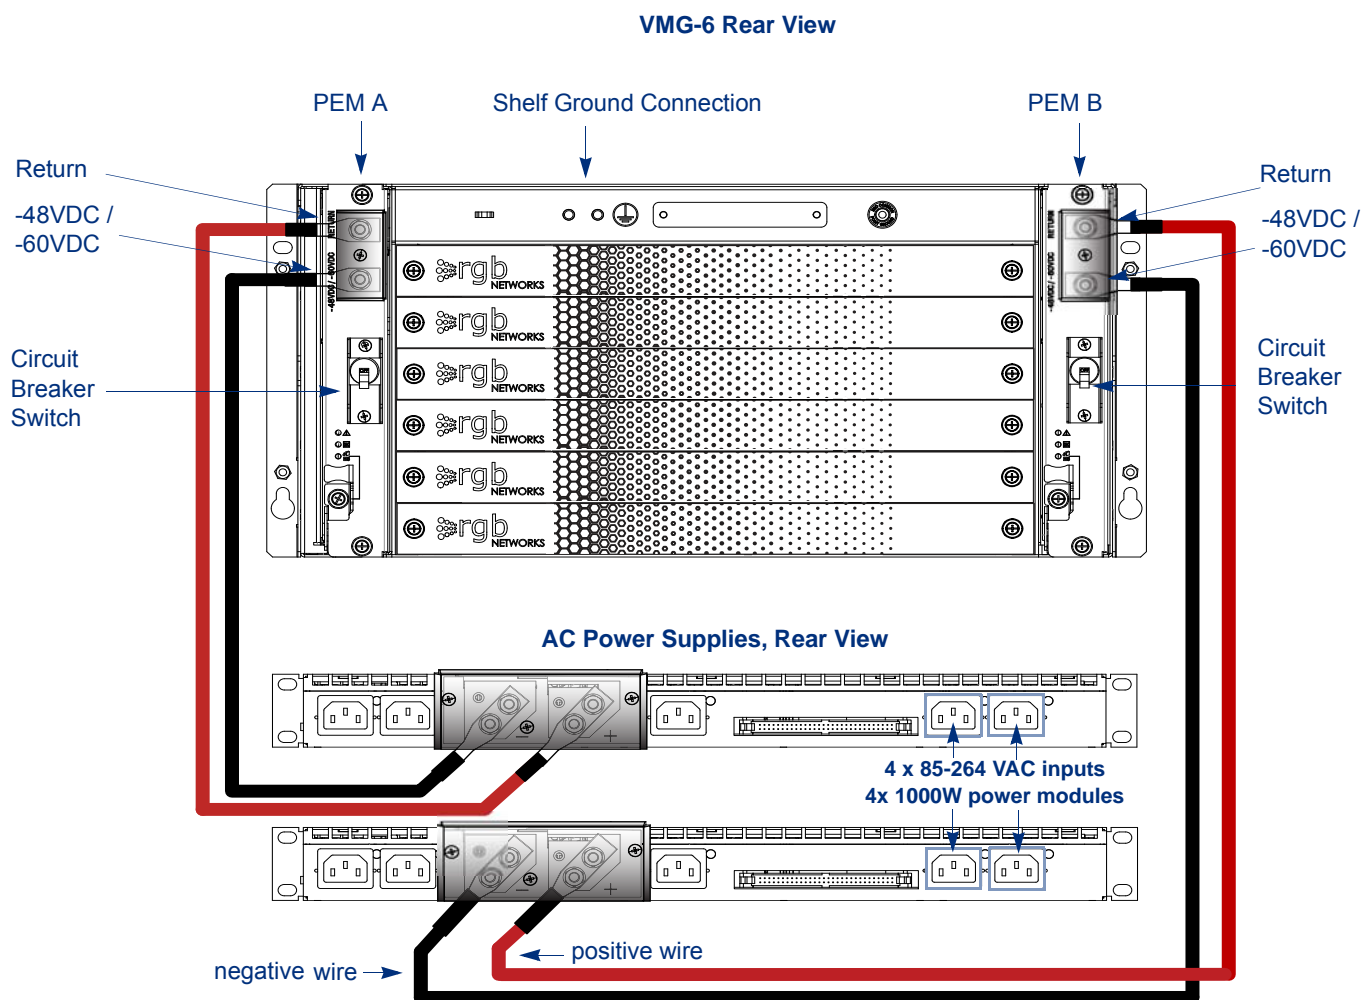

Figure 2. VMG-6 with AC Power Supplies - Full Redundancy
2. Full redundancy with dual PEMs and dual AC power supply chassis (Figure 2).
Figure 2 shows a diagram of the Full redundancy solution.